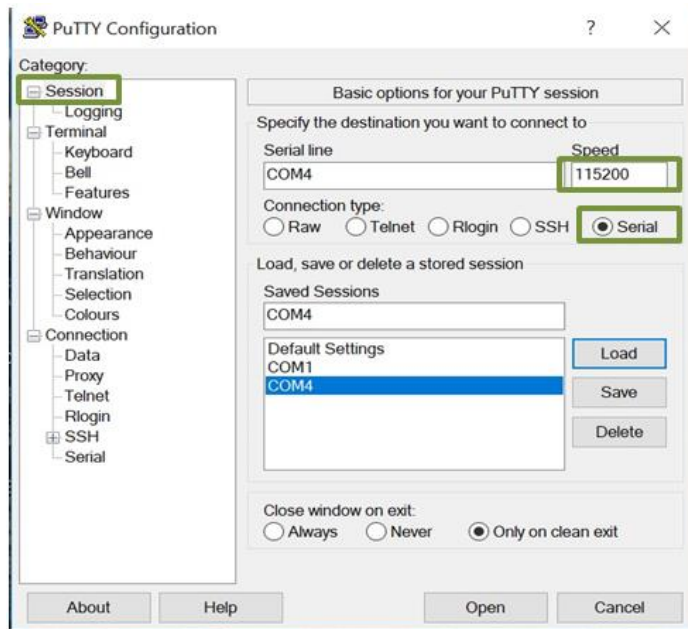

Figure 9: PuTTY Configuration - 3
4. Select “Session” under “Connection Type”, select “Serial” (refer to Figure 9).
5. In the “Serial line” box, type “COMx” where x is the COM port # that Windows has assigned to Arduino UNO board (refer to Figure 9).
6. In the “Speed” box, type “115200” to set the baud rate (refer to Figure 9).
7. In the “Saved Sessions” box, type “COMx” where x is the COM port # that Windows has assigned to Arduino UNO board (refer to Figure 9).
8. Click “Save” to save the COMx configuration file (refer to Figure 9).
9. Click “Open” to launch PuTTY (refer to Figure 9).